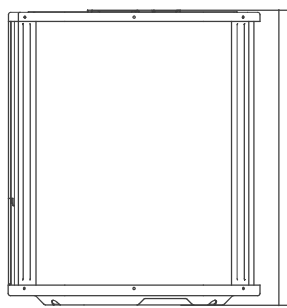

Fig. 6-5
- The minimum distance between the outdoor unit and obstacles described in the installation chart does not mean that the same is applicable to the situation of an airtight room. Leave open two of the three directions (M,N,P) (Refer to Fig.6-5)